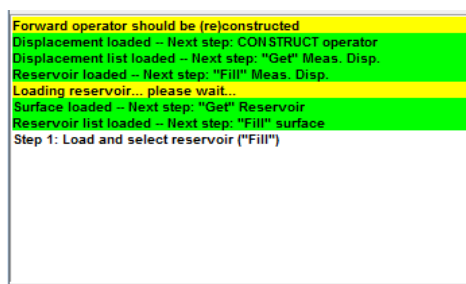

Figure 12 After loading of reservoir and displacement data, the forward operator can be constructed.
1. If reservoir geometry and displacement data are loaded successfully, the IT indicates that the forward operator can be constructed (Figure 12, **step 1** in Figure 13). After successful generation of the forward operator, a confirmation message is given (Figure 14). Note that nothing is plotted at this point. If the top reservoir surface consists of a large number of elements ($>1e5$) this step may take 1-2 minutes.